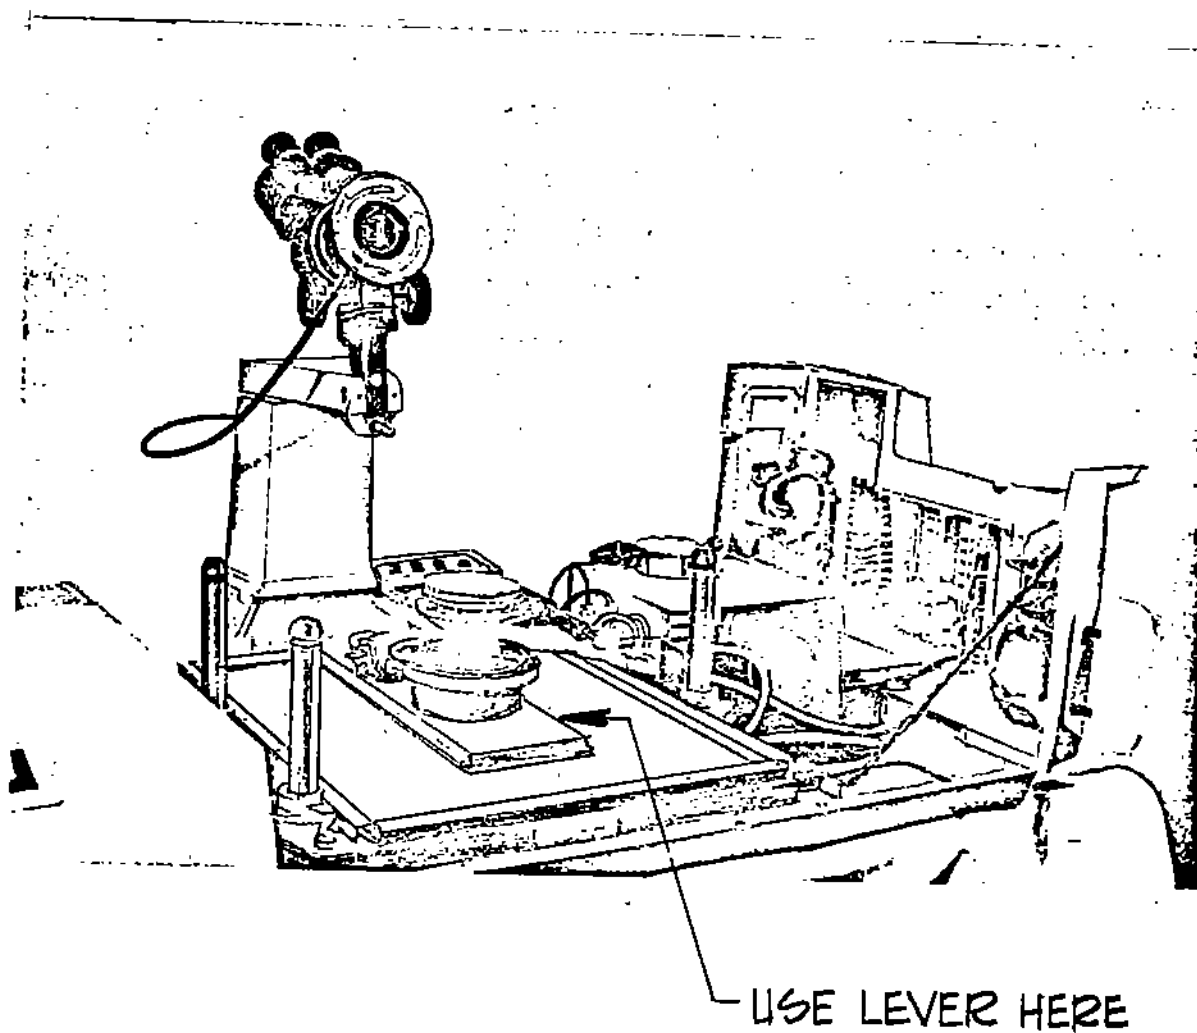

Figure 2-4. Prober with Cover Open
4. Remove lefthand cover by lifting at lower edge on front or left side. Prober should now appear as shown in Figure 2-4.